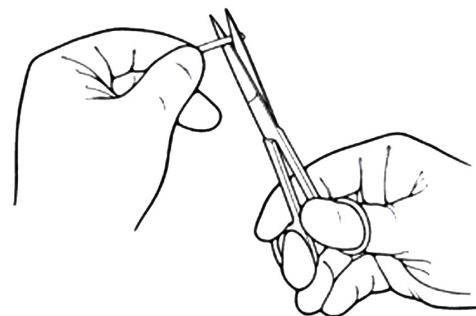

Figure 4-30. Trim Tubing
1. Using clean, well-cutting scissors, trim tubing lengths squarely to fit patient's anatomy. **(Figure 4-30)**